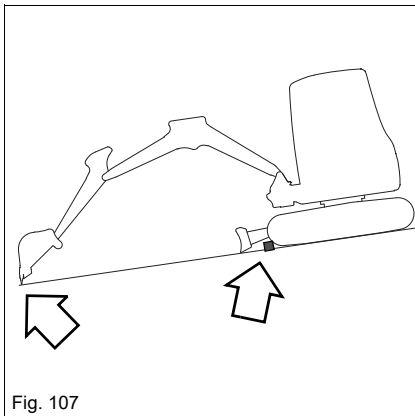

Fig. 107
- Secure the vehicle with wheel chocks (see Fig. 107).